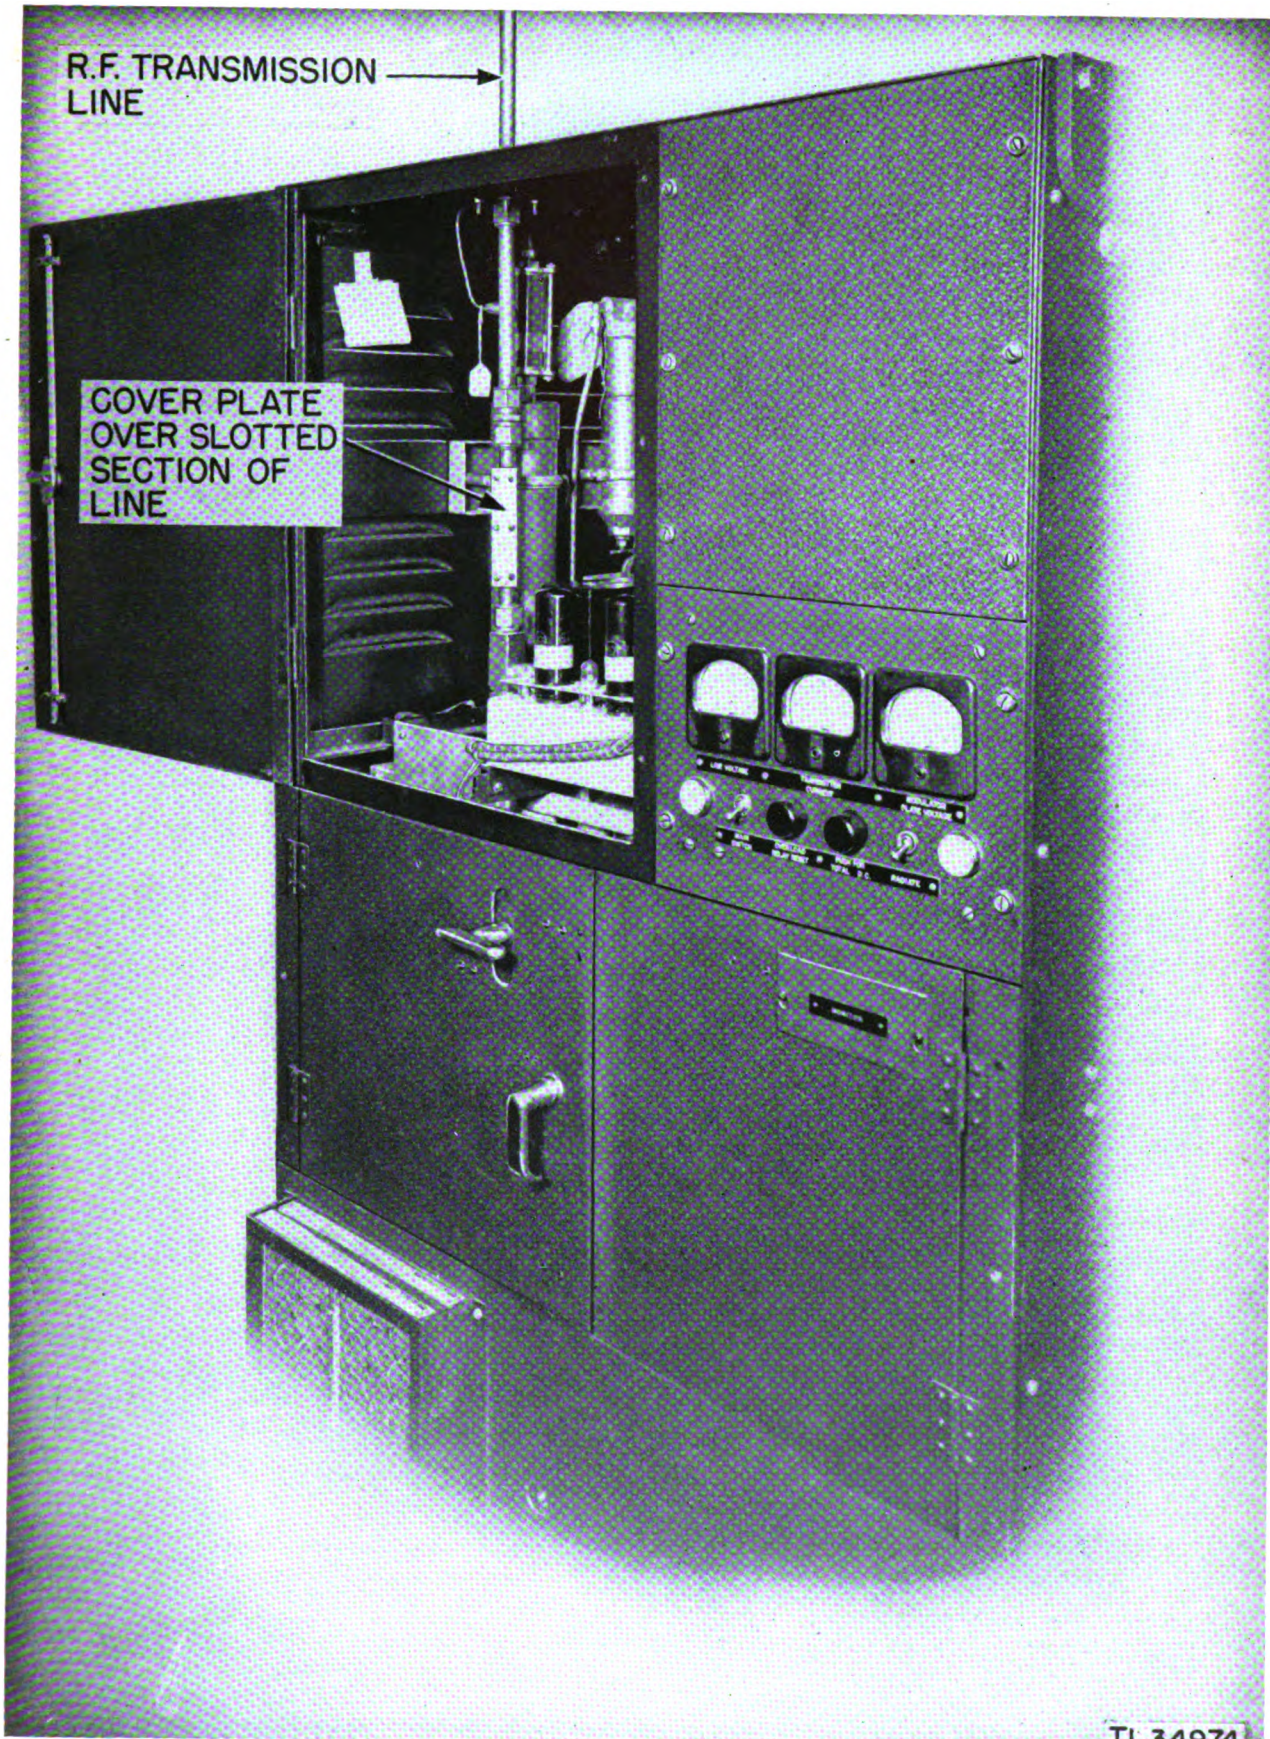

Figure 26. Slotted section of r-f line.
c. Open the upper left-hand panel of the transmitter cabinet. Remove the cover from the slotted section of r-f line by unscrewing the 6 retaining screws. (fig. 26).